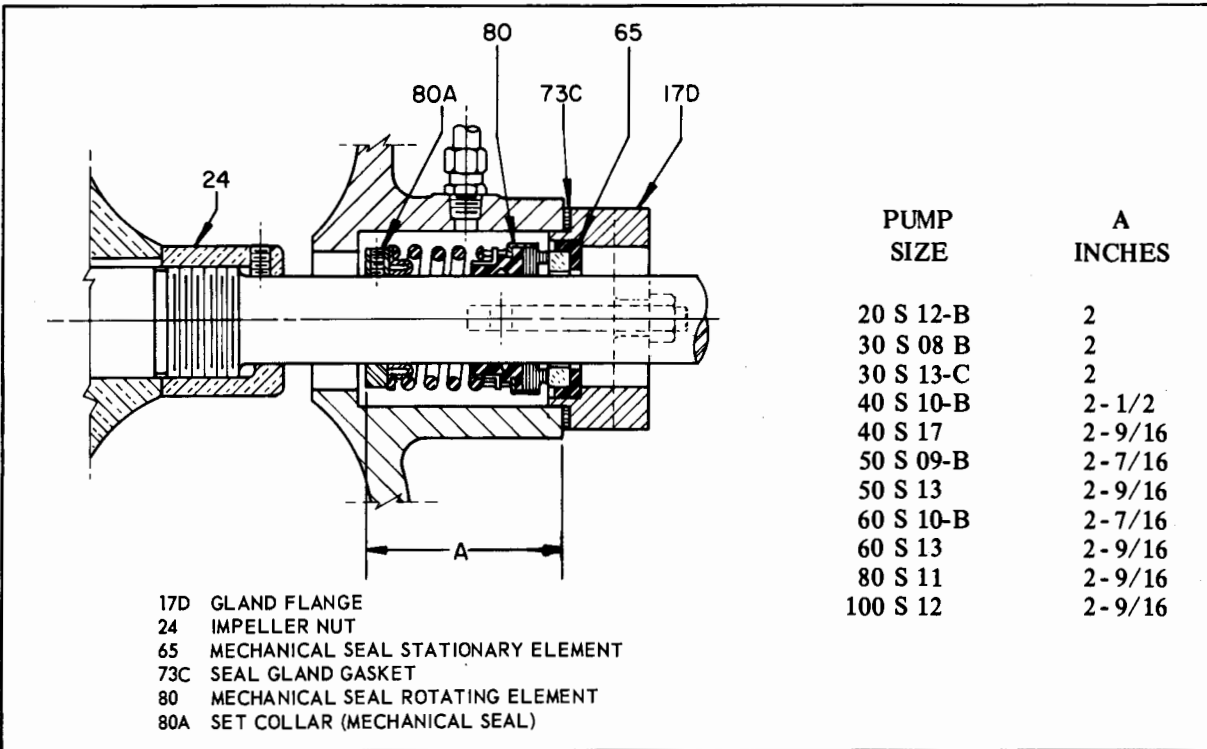

FIGURE 5. MECHANICAL SEAL SET COLLAR ADJUSTMENT
- a. Insert coupling key (46) on shaft. Assemble coupling half on shaft and tighten its set screw.
- c. Place assembled rotating element into lower casing. The casing rings (7) must be oriented to engage dowels into holes of lower casing (1A). Check for interference between lower casing and water deflectors (40A) or set collars (80A); reposition if necessary. Engage outboard bearing housing (33) with dowel pin on lower casing. Install outboard bearing cap (41). Adjust inboard bearing housing to engage with dowel pin. Install inboard bearing cap (41). Tighten cap screws on bearing caps.
- d. Adjust impeller nuts (24) so impeller runs centrally in casing. Tighten the set screws.
- e. Adjust the mechanical seal set collars (80A) in accordance with figure 5. Tighten the set screws.
h. Insert the mechanical seal stationary element (65) in the gland counterbore. Position the gland gasket (73C) on gland flange (17D), insert flange in counterbore and tighten evenly with gland bolt (17B) nuts.
i. Withdraw lantern ring (29) and push bushing (63) to rear of stuffing box. Insert the same number of packing rings (13) as were found during disassembly, on each side of lantern ring. Insert each ring separately and stagger the joints of successive rings 90°. Install glands (17) and set nuts of gland bolts (17B) finger tight – DO NOT USE A WRENCH.